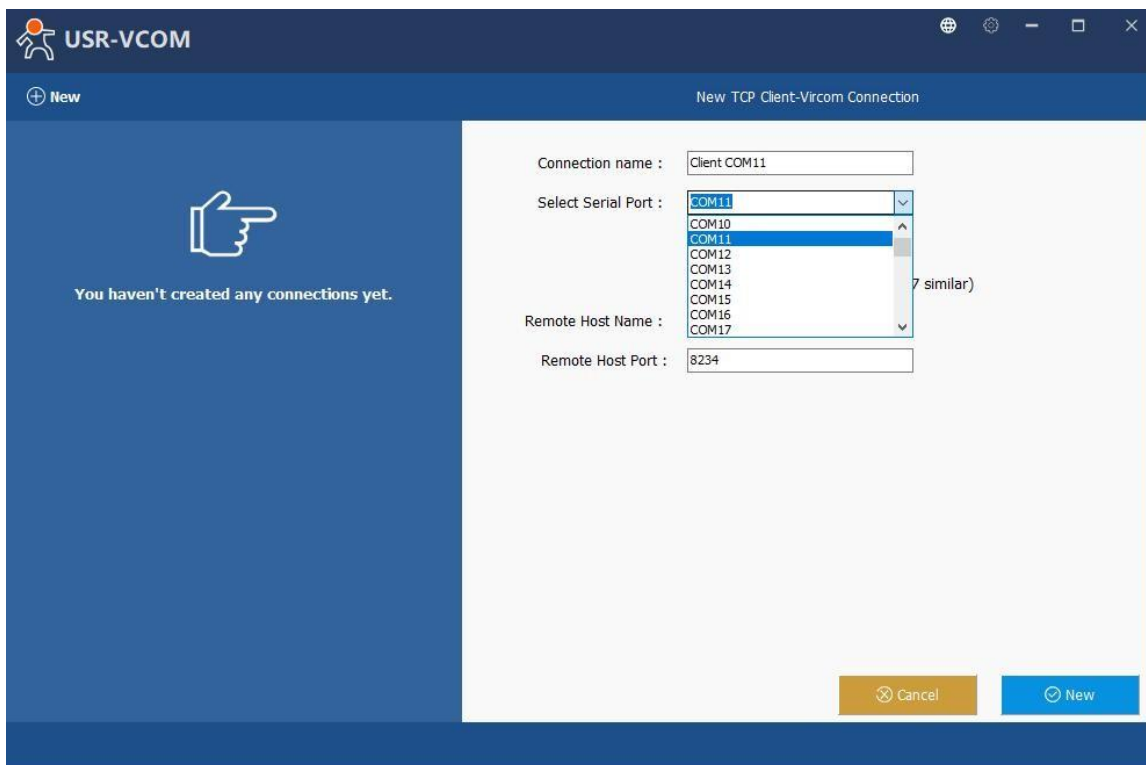

Fig.71 Select one COM port
2. Select one COM port as the Virtual COM port before proceeding as shown in Fig.71. Note that if a COM port number is used by other application or your operating system, you can not select it.